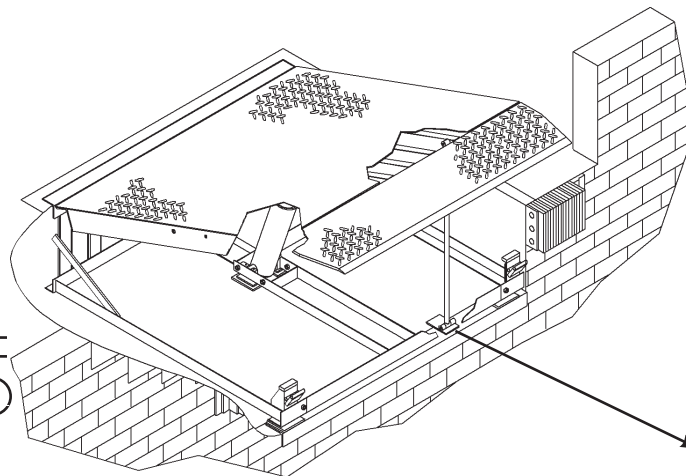

Figure 12
Whenever maintenance is to be performed under the dock leveler platform, support the platform with maintenance prop (C). Position the maintenance prop behind front header plate (D) while staying clear of the lip. The lip will fold down after the platform has rested on the maintenance prop. Lock the maintenance prop in the service (upright) position using an OSHA approved lockout device* (B) and tag out device* (A). See Figures 12 and 13.